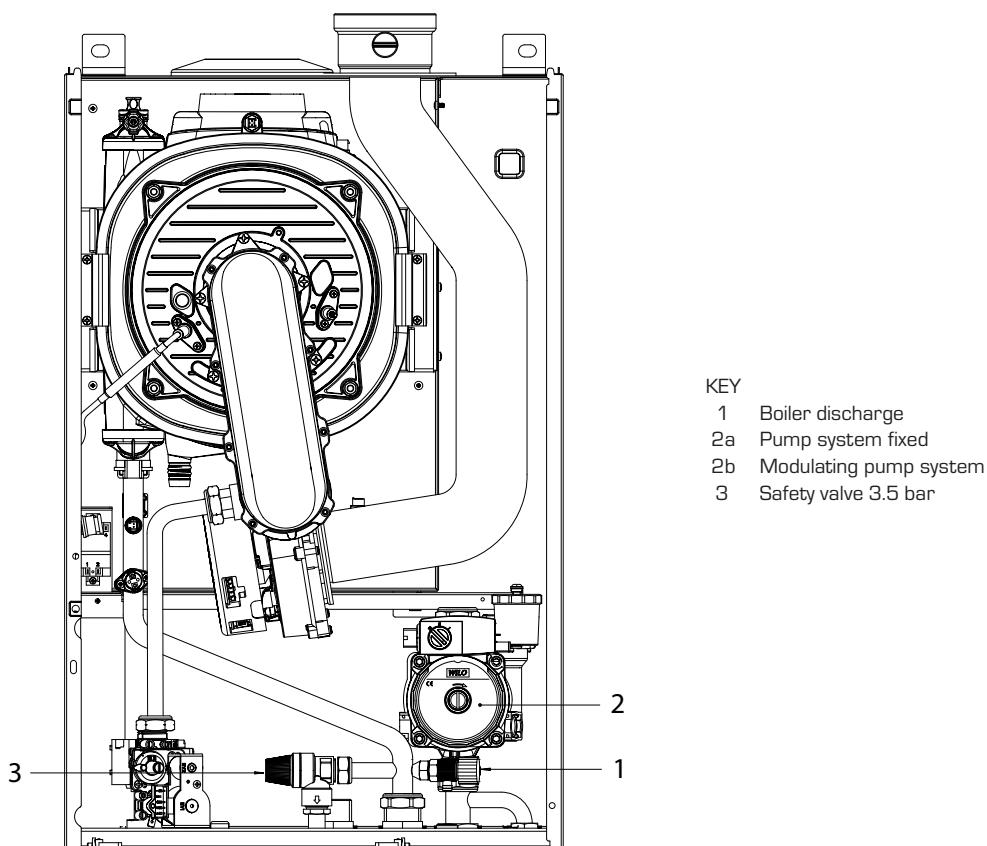

Fig. 5
2.4.1 System draining (fig. 5)
To drain the system, turn off the boiler and use the discharge valve (1 fig. 5).